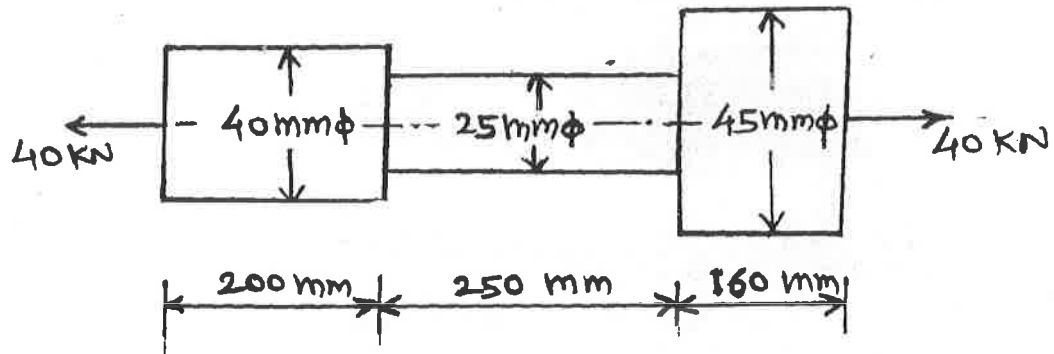

Fig. No. 1
- b) A brass bar shown in Figure No. 1 is subjected to a tensile load of 40 kN. Find the total elongation of the bar if  $E = 1 \times 10^5 \text{ N/mm}^2$  and the maximum stress induced.